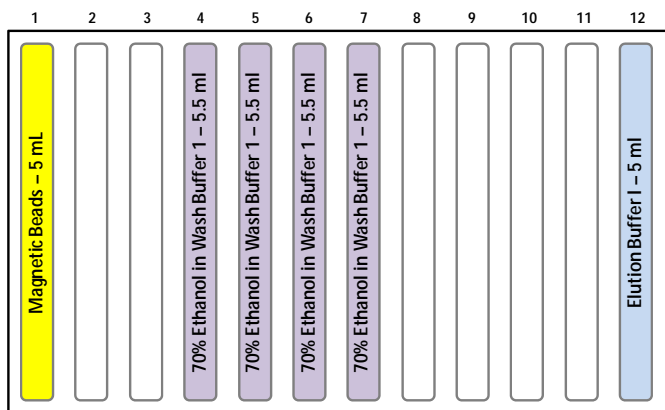

Figure 8. Magnetic Beads and Buffers for Purification.
2. Thoroughly shake the bottle with magnetic beads. Pipette 5 ml into column 1 of the V-Groove Reservoir (Figure 8).